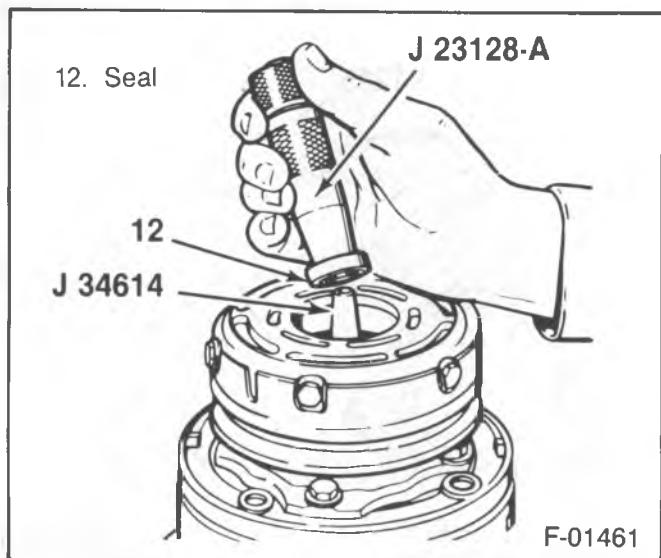

Figure 15—Removing the Shaft Seal with J 23128-A
Remove or Disconnect (Figures 15 and 16)
- Engage the knurled tangs of J 23128-A into the recessed portion of the seal by turning the handle clockwise (figure 15).